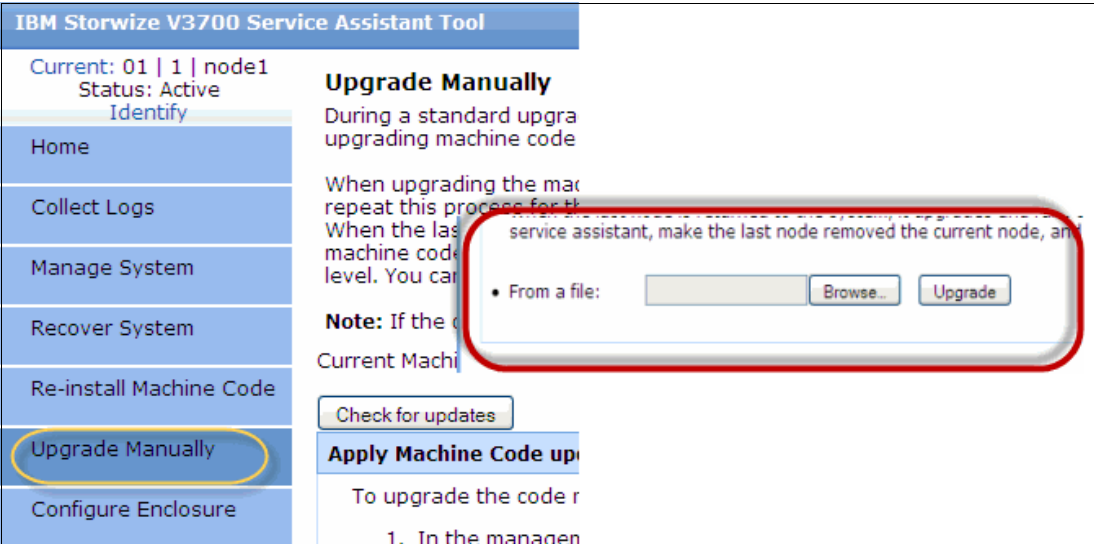

Figure 9-38 Select machine code file for upgrade
7. On Service Assistant panel, select **Upgrade Manually** and then select the machine code version to upgrade this node, as shown in Figure 9-38.